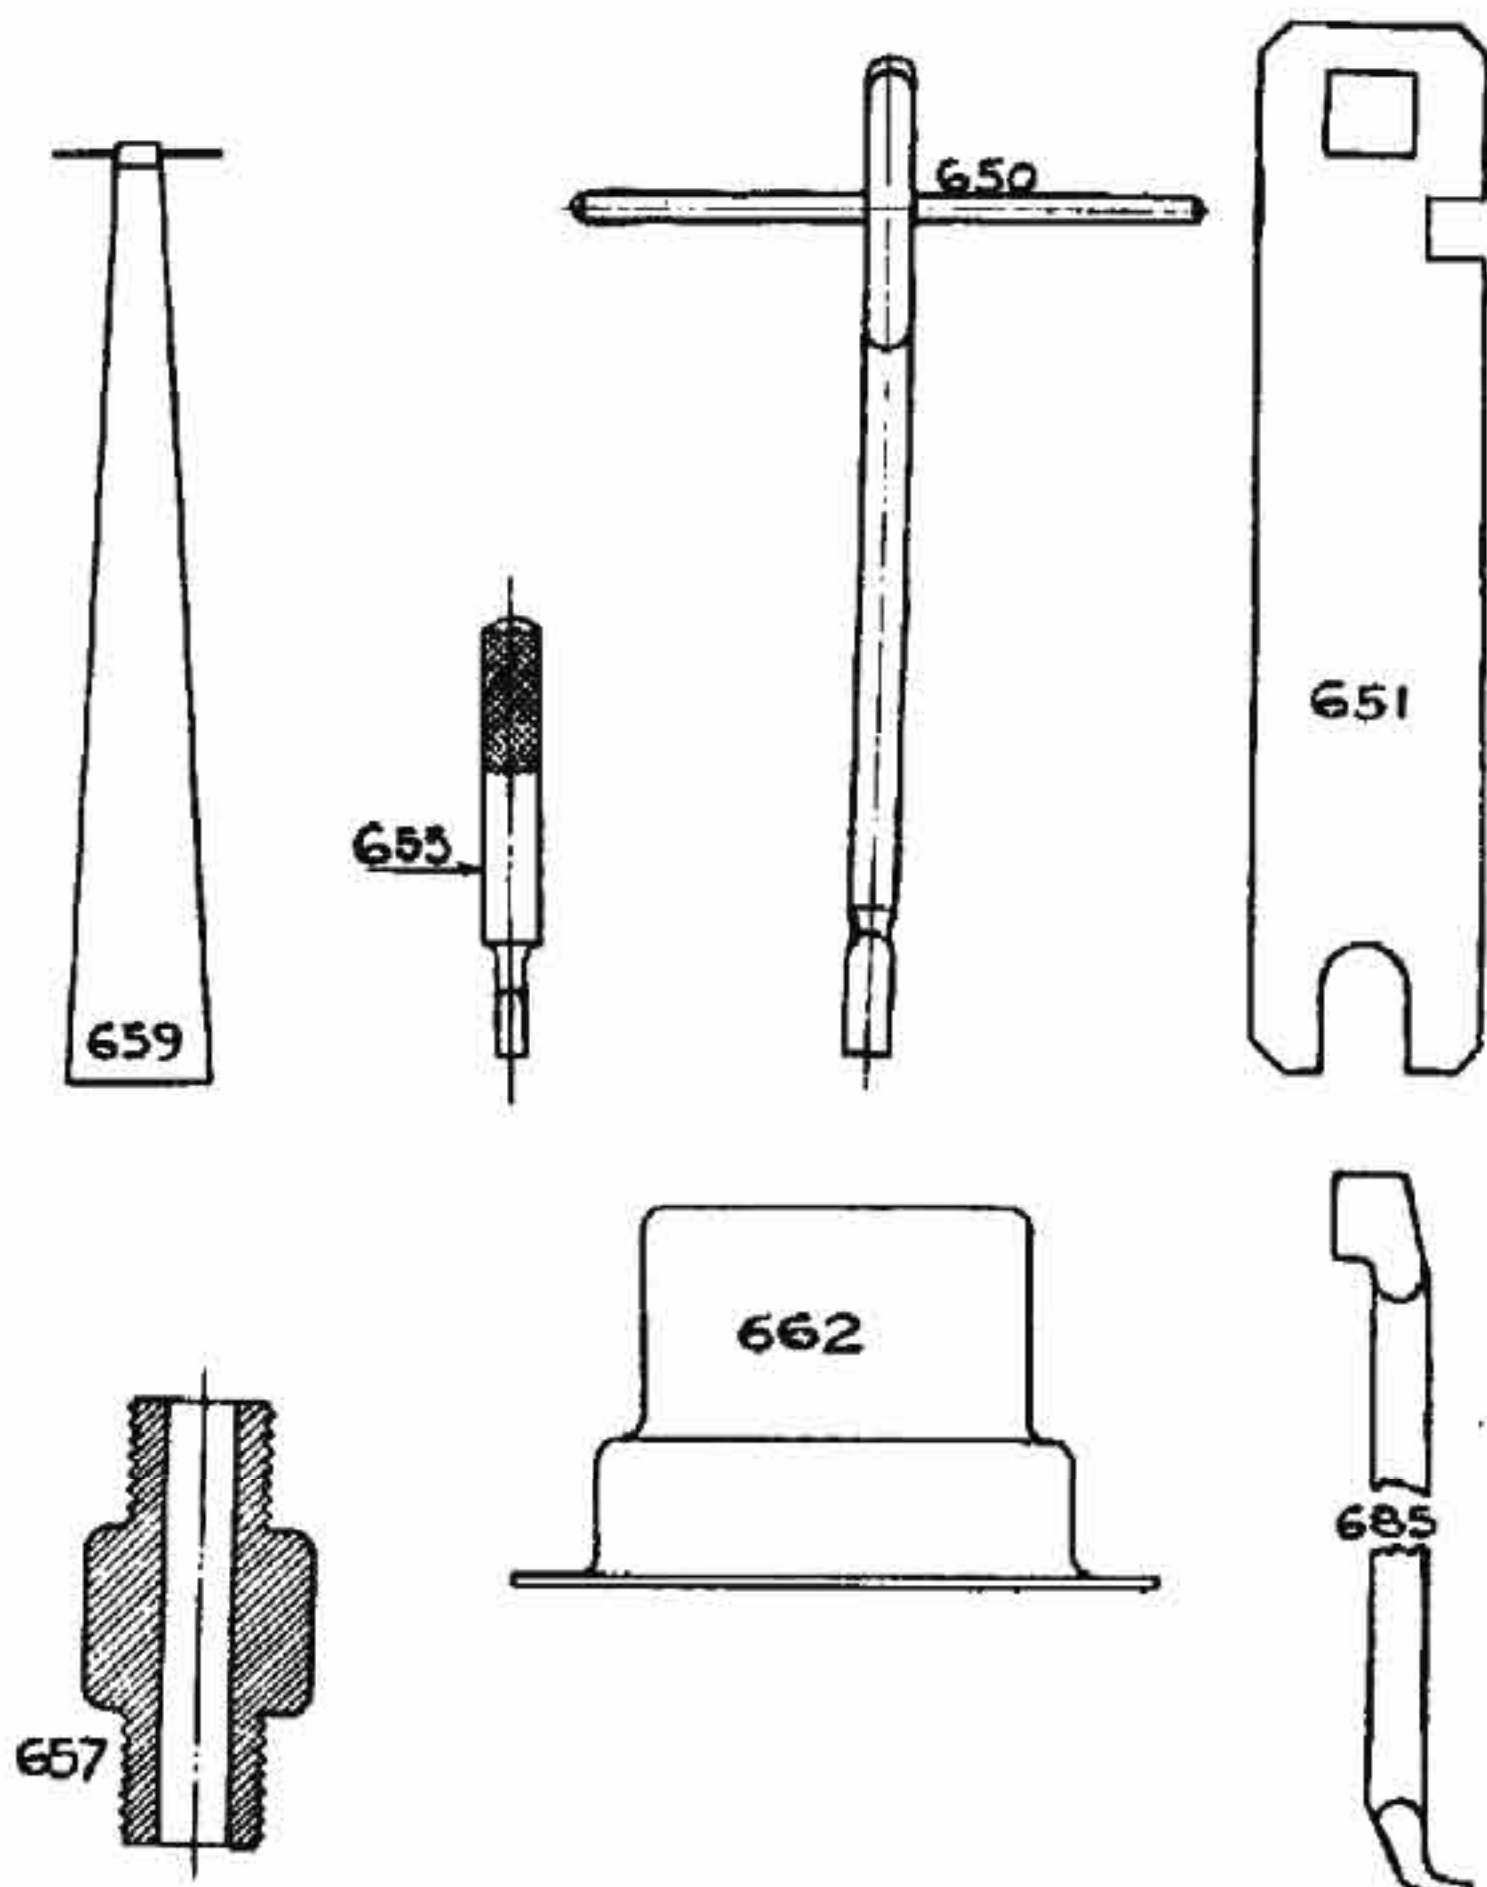

FIGURE 22-6.—Accessories and tools for 55 mm., type B, I. O. V. lamp.
(1) Fill the heating torch three-fourths full of alcohol. (See par. E below.)
(2) Remove the centering pin and revolve the return bend support until the torch is beneath the vaporizing tube.
(3) Light the torch and place heat retainer over the vaporizer.
(4) Allow the torch to burn from 8 to 10 minutes (until thumb cannot be held against the vaporizer tube just above the vaporizer nut) and open the discharge needle valve on the tank very slightly. A blue flame should appear on the flame screen.
(5) Remove and extinguish the heating torch (by using cap No. 916).
(6) Swing the bunsen tube under the vaporizer.
(7) Open the needle valve slowly until a good blue flame is obtained.
(8) Remove the heat retainer, install the mantle and adjust the flame.
(9) Clear the nozzle as necessary—use a 0.009 size pricker for 35-mm.—0.12 for 55-mm. (See fig. 22-6.)